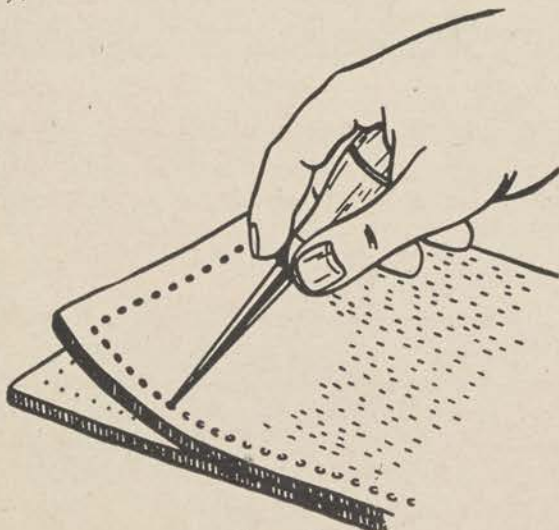

Figure 29.
d. When two pieces are to be joined, mark and punch the first one, then lay it carefully on top of the other. The second piece is then marked with an awl through the holes of the first piece so that when punched the openings will coincide perfectly (fig. 29).